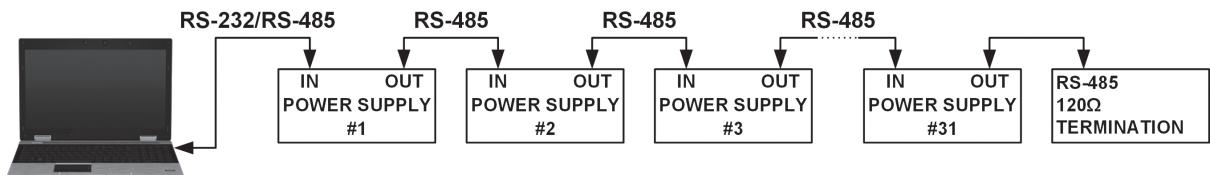

Fig 4-7: Multi power supplies RS232/485 connection
3. Refer to Fig. 4-7 for typical connection.